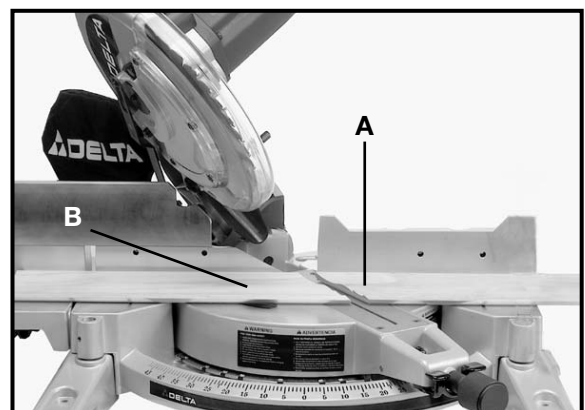

Fig. 36
3. Place the crown moulding on the table with the **CEILING EDGE** of the moulding against the fence, and make the cut, as shown in Fig. 36.
**NOTE:** The piece of crown moulding used for the outside corner will always be on the right hand side of the blade, as shown at (A) Fig. 36. The piece of crown moulding used for the inside corner will always be on the left hand side of the blade, as shown at (B) Fig. 36.